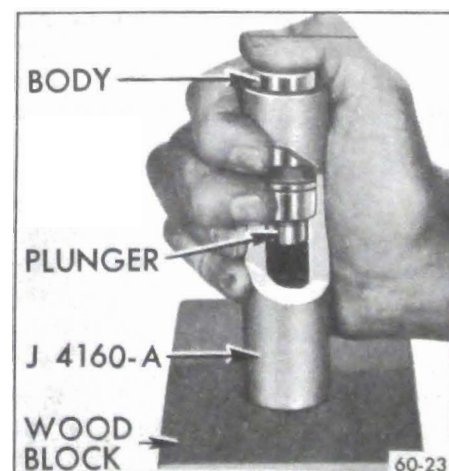

Figure 60-110 - Removing Plunger With J-4160-A
10. If a plunger sticks in lifter body, place lifter in large end of Plunger Remover J-4160-A, with plunger inward. While holding lifter with thumb, rap the open end of remover against a block of wood with just enough force to jar the plunger from body. See Figure 60-110.